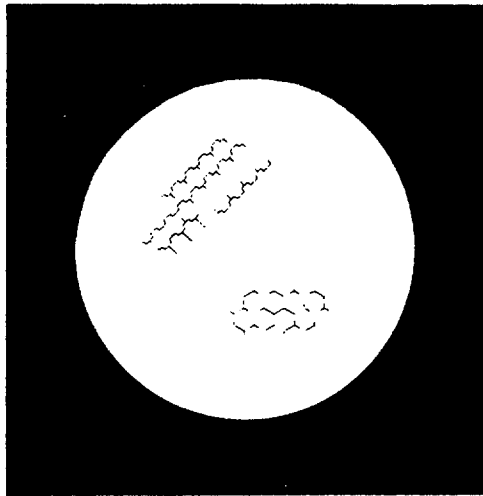

Figure 2-5. Chicken Wire .
f. Chicken Wire. An irregular pattern of dark thin lines in the field of view either throughout the image area or in parts of the image area (fig. 2-5). Under the worse case condition, these lines will form hexagonal or square-wave shaped lines. These lines are caused by defective fibers that do not transmit light occurring at the boundaries of fiber bundles in the output optic of the image intensifier. No action is required if this condition is present unless the chicken wire is deemed excessive by the user and the appropriate maintenance forms and records are completed in accordance with DA Pam 738-750. Direct support maintenance must evaluate the system for further action.